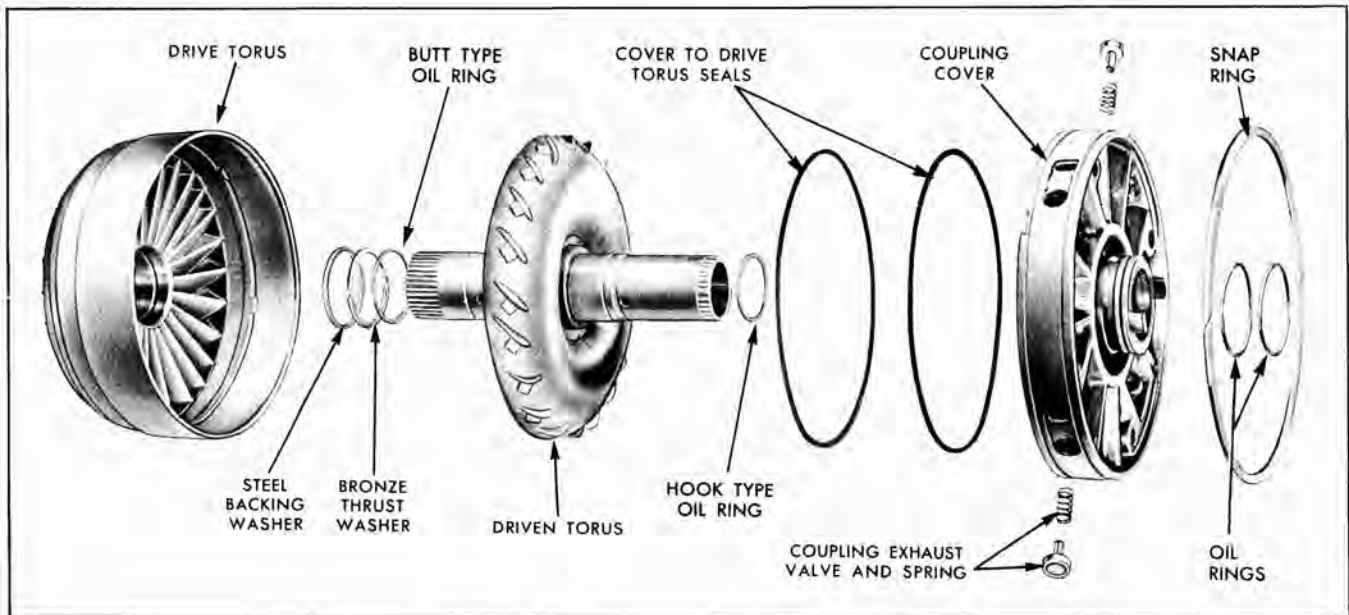

Fig. 119 Front Unit Coupling Parts—Exploded
3. Install two coupling exhaust valve retainers J-6122 to hold exhaust valves in position when removing cover (Fig. 119).
springs for collapsed or distorted coils (Fig. 119).